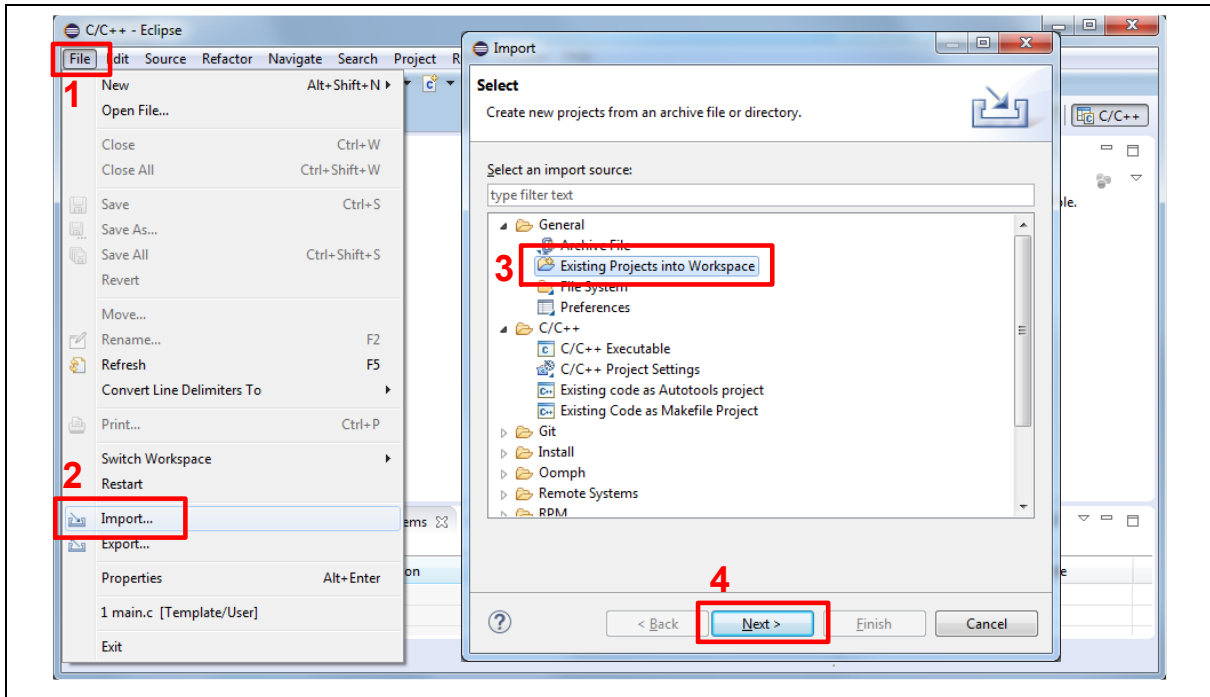
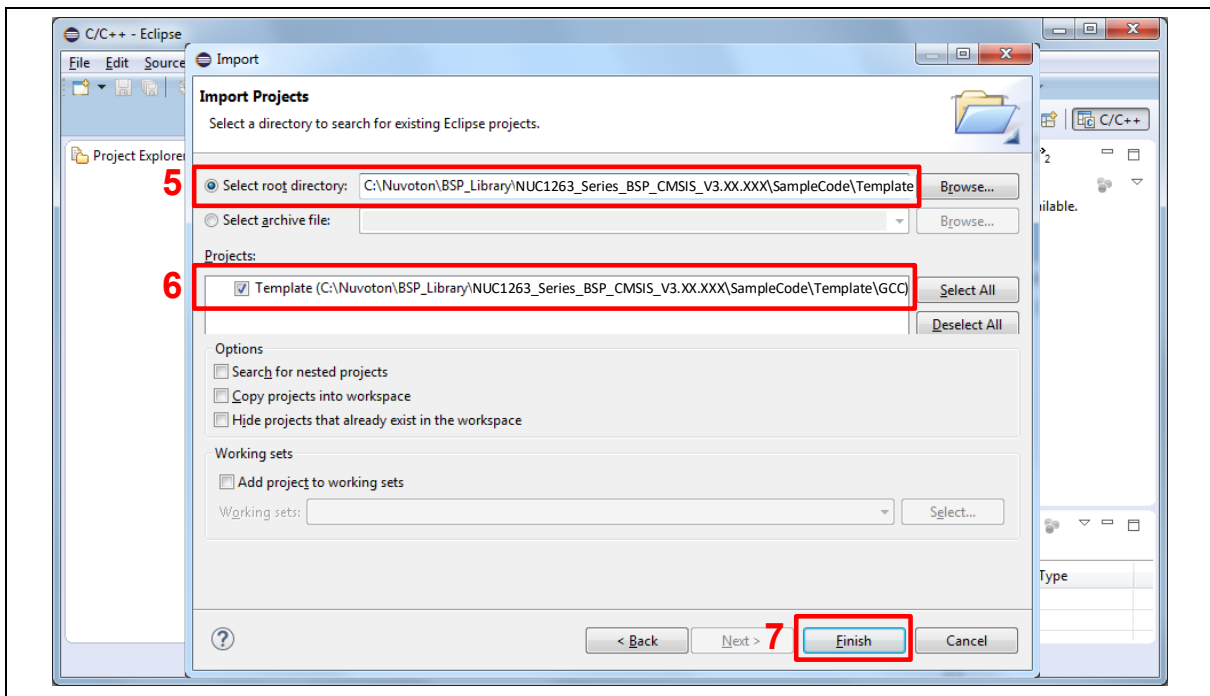

Figure 4-19 Import the Project in NuEclipse
Figure 4-20 Import Projects Windows
2. Import the "Template" project by following the steps presented in Figure 4-19 and Figure 4-20.